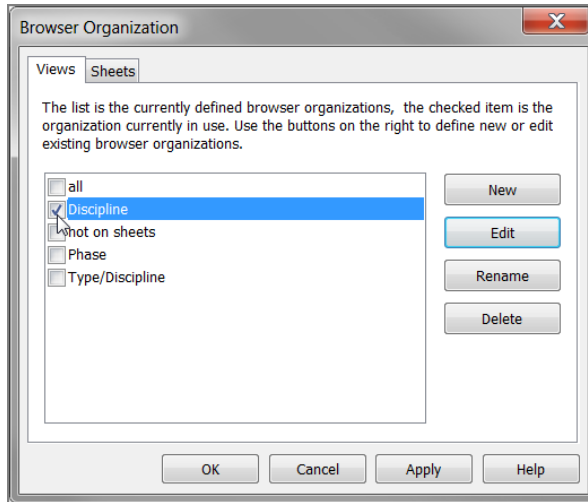

FIGURE 8.73: Selecting Discipline
6. Select the Discipline option, as shown in Figure 8.73, and then click OK.